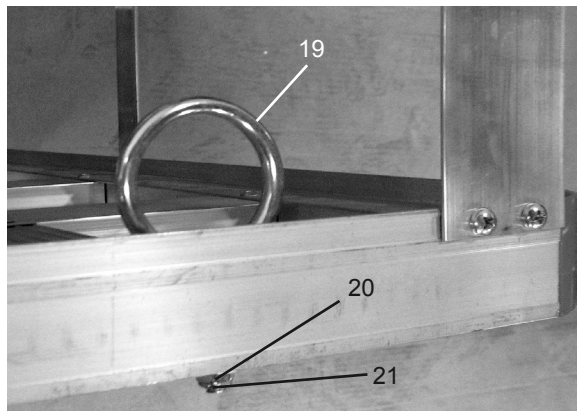

Figure 4
6. Use the Washers (20) and Nuts (21) to attach a Tie-Down Hook (19) to each corner of the Carrier Bed. See Figure 4.